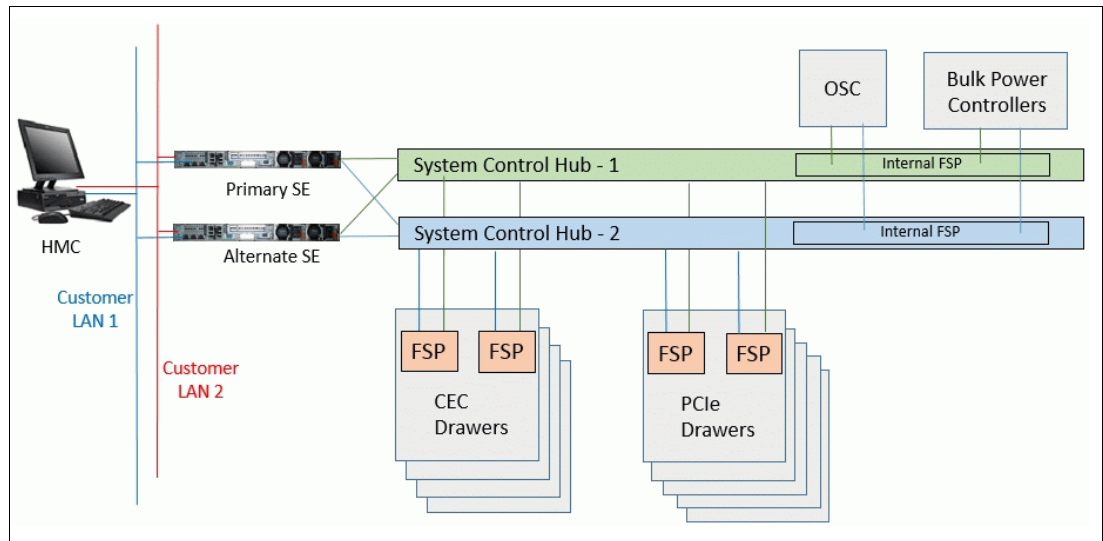

Figure 2-11 Conceptual overview of system control elements
Figure 2-11 shows a conceptual overview of the system control design.
**Note:** The maximum configuration has four CPC drawers and five PCIe or I/O drawers for z14. The various supported FSP connections are referenced in Figure 2-11.